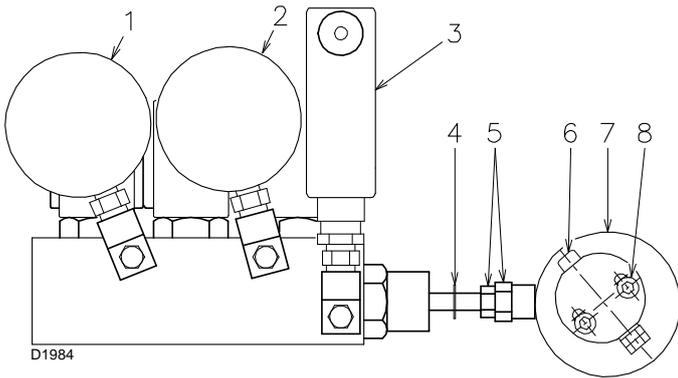

Fig. 28
- loosen the nut and lock nut 5)(Fig. 28) and the two screws 8)(Fig. 28) of the pressure transformer unit and eccentric.
- The fuel pressure on the nozzle delivery is adjusted on the pressure transformer unit and displayed on the pressure gauge 1)(Fig. 28).
- The fuel pressure on the nozzle return is adjusted on the pressure transformer unit and displayed on the pressure gauge 2)(Fig. 28).
- The **adjustment of the MINIMUM pressure** of the fuel on the nozzle return must be carried out solely by means of the nut 5)(Fig. 28); screw down said nut to decrease the pressure and unscrew to increase it.
- The **adjustment of the MAXIMUM pressure** of the fuel on the nozzle return must be carried out solely by means of the eccentric 6)(Fig. 28) screw 7); screw down said screw to increase the pressure and unscrew to decrease it.
Key (Fig. 28)
Adjust the pressure of the fuel on the nozzle return, operating solely by means of the nut 5) (Fig. 28); the desired pressure for firing and minimum output is set in this manner.
Once maximum opening of the servomotor has been achieved, adjust the pressure of the fuel on the nozzle return again only by means of the screw 6)(Fig. 28) of the eccentric; the desired pressure for maximum output is set in this manner.
- The proper setting of the eccentric 7)(Fig. 28) is possible when its operation field follows the servomotor operation field (20° - 130°): so, that every variation of the servomotor position corresponds to a pressure variation.
- Do not let the piston beat repeatedly: the stop ring 4)(Fig. 28) determines the max. stroke.